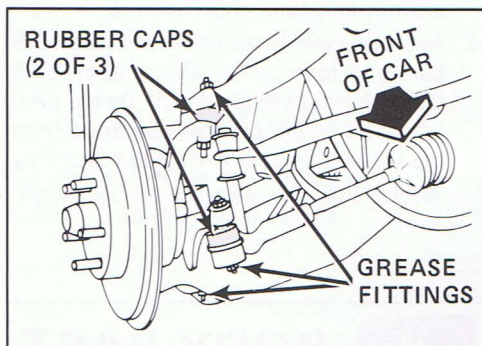

Figure 1 - Front suspension (passenger's side)
1. Wipe the 6 grease fittings (3 on each side) clean with a cloth. See Figure 1.